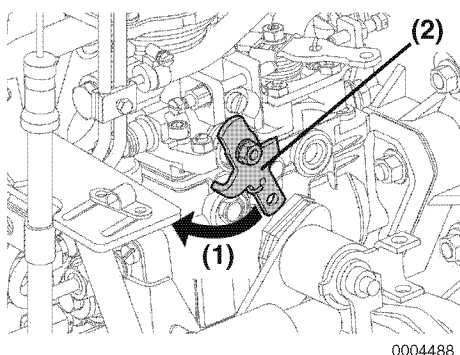

Figure 21
Operate the starter while moving and holding (**Figure 21, (1)**) the stop lever (**Figure 21, (2)**) on the governor to stop fuel flow.